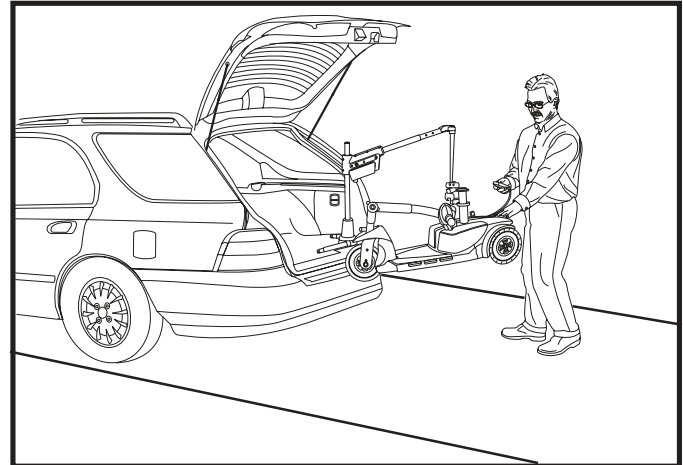

Figure 16. Lifting The Scooter
8. Once the scooter is raised high enough to fit into the vehicle, stop the lift. **See figure 16.**